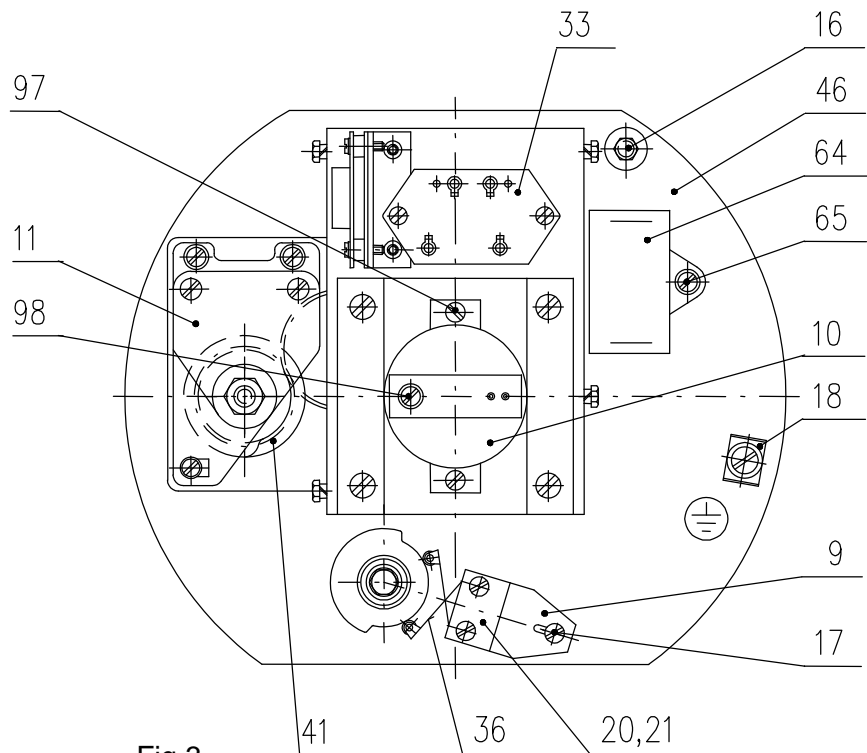

Fig.3
Module M 4 – control box (fig. 3) – a make with capacitive transmitter
Switch element (9) (Fig 3) is formed by two micro-switches S1 and S2. It is put into operation after loosening of the screw (17)
The actuator is equipped with two parallel space heaters(16)(Fig.3,6) with total power output 20W. Connection of the space heater is conditional by operation environment.